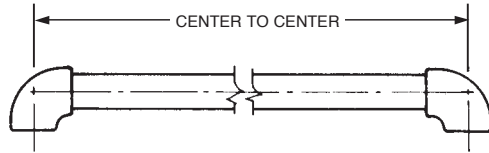

FIGURE 4-152
- Pipe lengths are measured from center of fitting to center of fitting. See Figure 4-152.